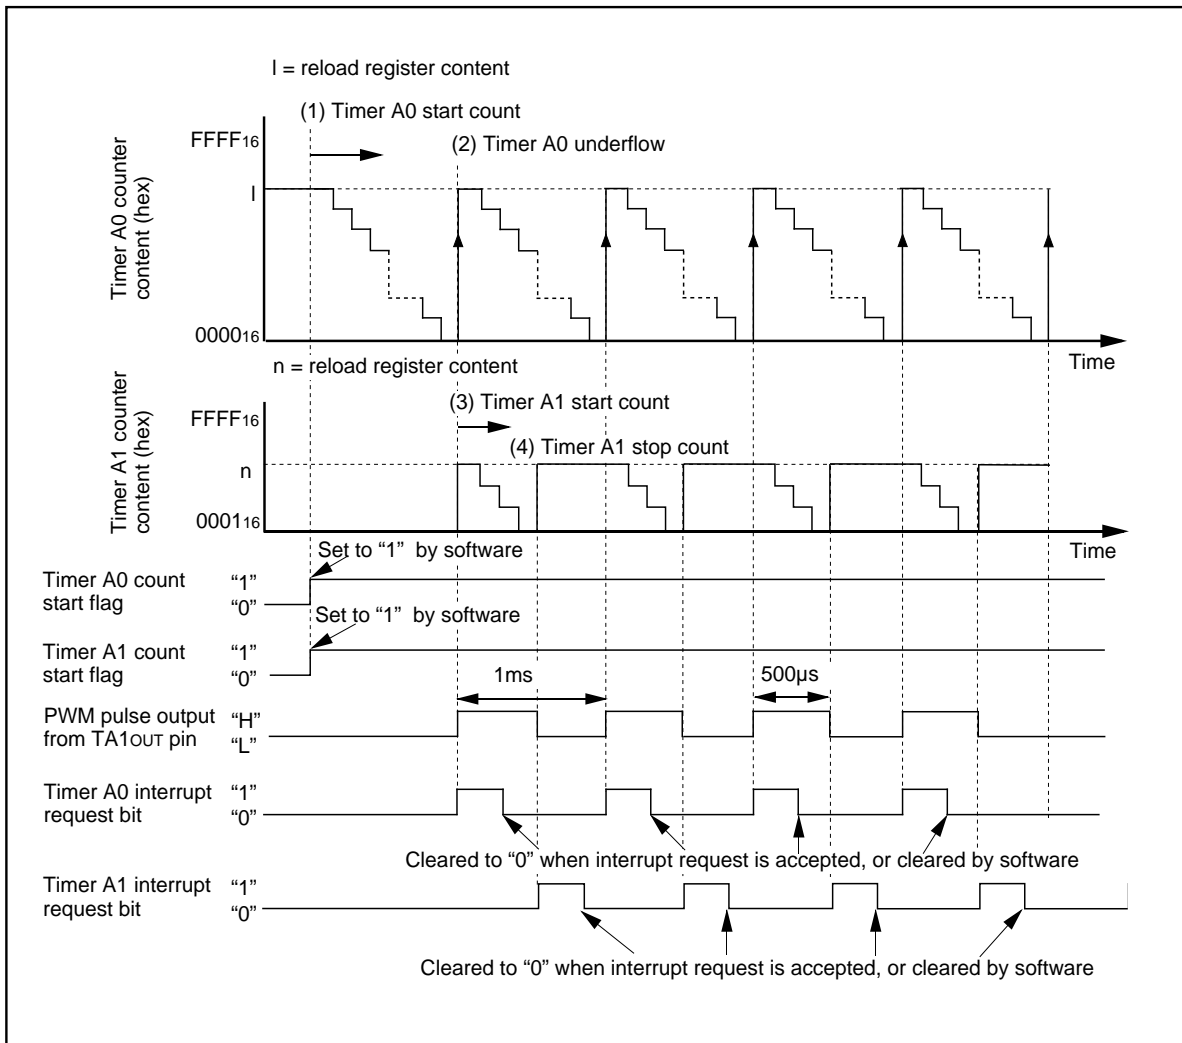
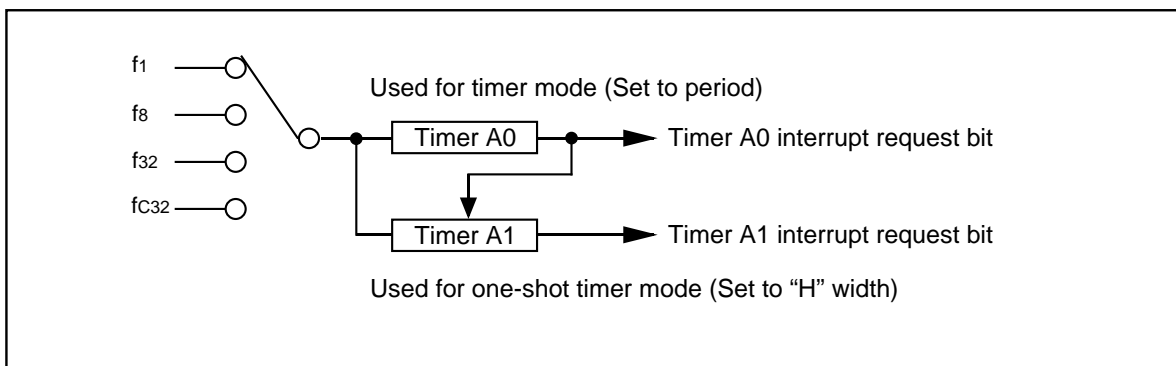

Figure 3.2.1. Operation timing of variable-period variable-duty PWM output
Figure 3.2.2. Connection diagram of variable-period variable-duty PWM output
**Overview** In this process, Timer A0 and A1 are used to generate variable-period, variable-duty PWM output. Figure 3.2.1 shows the operation timing, Figure 3.2.2 shows the connection diagram, and Figures 3.2.3 and 3.2.4 show the set-up procedure.